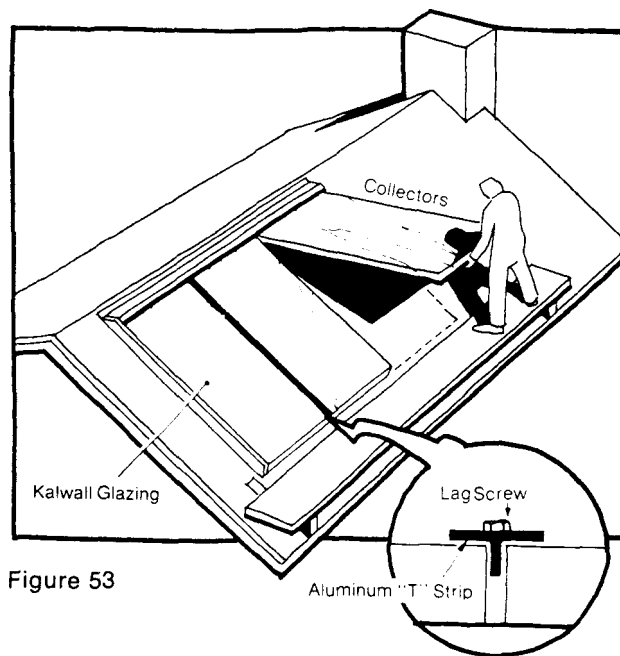

Figure 53
5. A row of panels can now be laid in place. Start at the left side and work to the right, just laying the panels loosely on the roof. Next they should be butted against the guide strip, straightened and leveled (see Figure 53). A strip of wood can be tacked in place along the bottom of the panels to keep them from sliding down the roof. The individual boxes can be toe-nailed